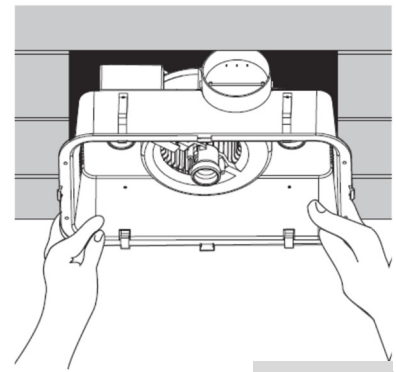

Fig. 4
14. Position the Bathroom Heater/Exhaust/Light unit into the hole, making sure the duct outlet is aligned with the exterior vent, ensure all cabling is away from the housing, and secure in place with the two spring clips. (Refer Fig. 4)